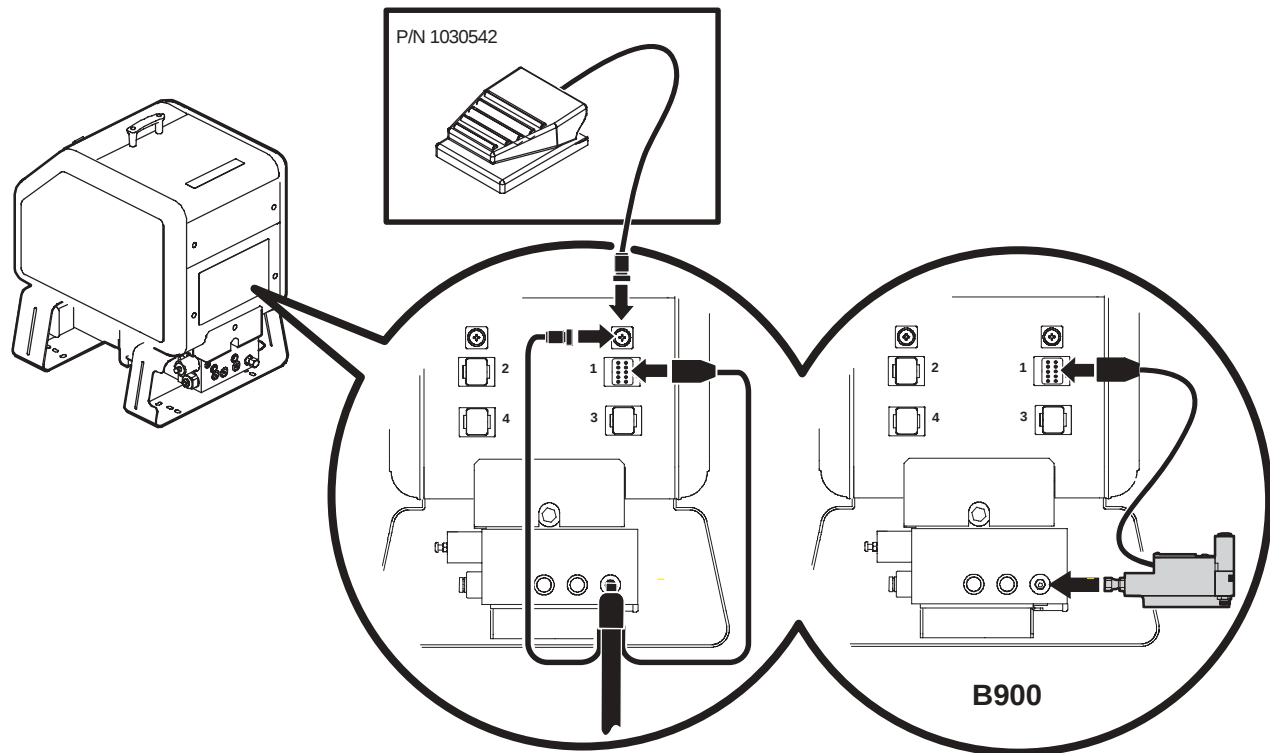

Figure 3-4 Connecting a switched handgun hose or footswitch
See Figure 3-4.
- See Figure 3-4. The B900N electric gun can be connected directly to the manifold. Operating parameter 12 or 13 must be enabled if a B900N is connected. Refer to Appendix A, *Operating Parameters*.